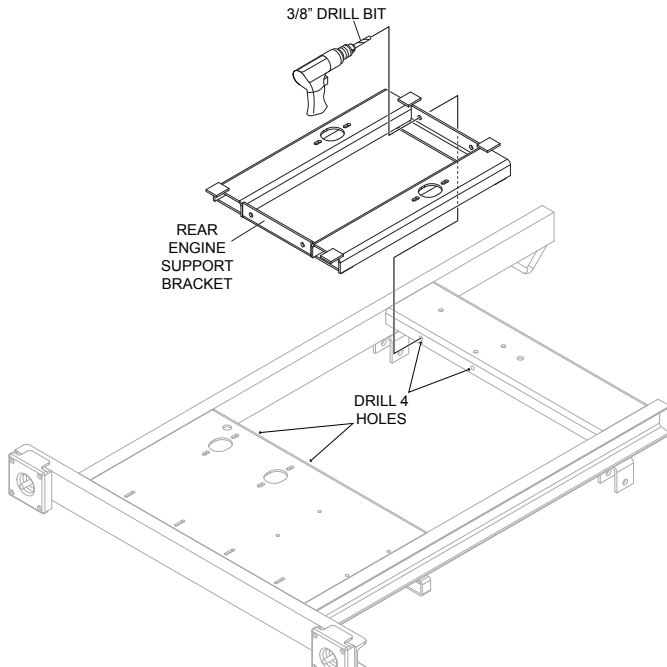

Figure 16. Drill 4 Holes in Trailer
- Using the holes in the rear engine support bracket as a template, drill 4 holes into the trailer frame. Use 3/8" drill bit. See Figure 16.